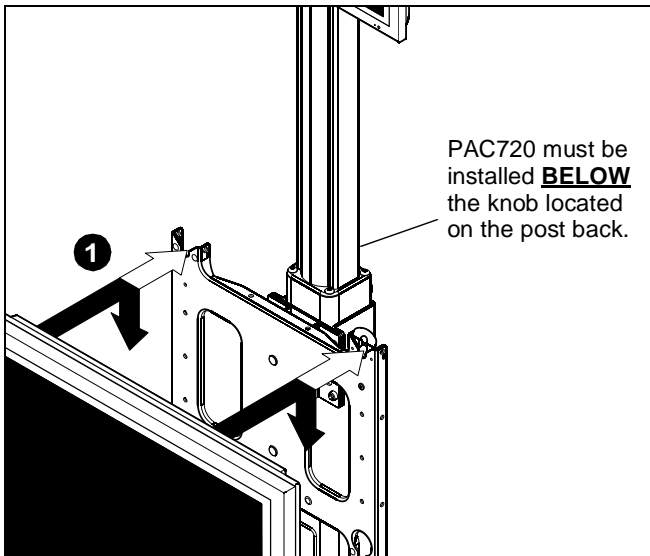

Figure 5
1. While supporting both sides of display, align four mounting buttons on display or interface bracket with four mounting holes in faceplate. (See Figures 5 and 6)
2. Lower display into place listening for audible "click" to ensure recessed area of mounting buttons are properly seated in lower area of mounting holes. (See Figures 5 and 6)